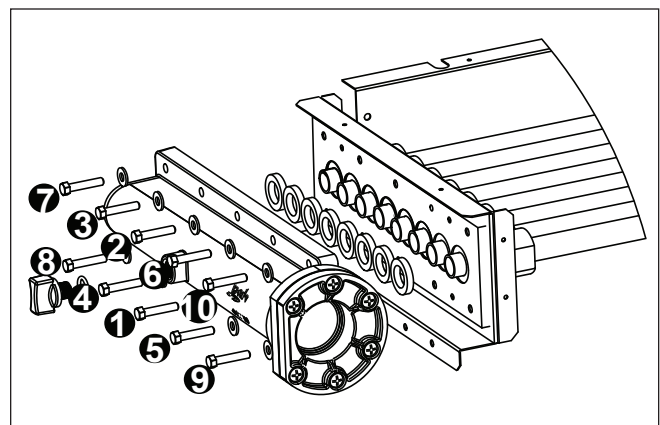

Figure 11. Header Bolt Tightening Sequence
13. Thread on the ten (10) bolts and washers and hand tighten.
15. Thread on the ten (10) bolts and washers and hand tighten.
16. Use a torque wrench to tighten the bolts on each header to four (4) foot-pounds. The bolts must be tightened in the sequence indicated in Figure 11.